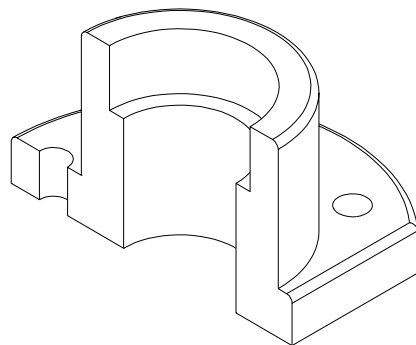

Figure 27-65 Final model after slicing
13. The final model for Example 2 should look similar to the one shown in Figure 27-65.